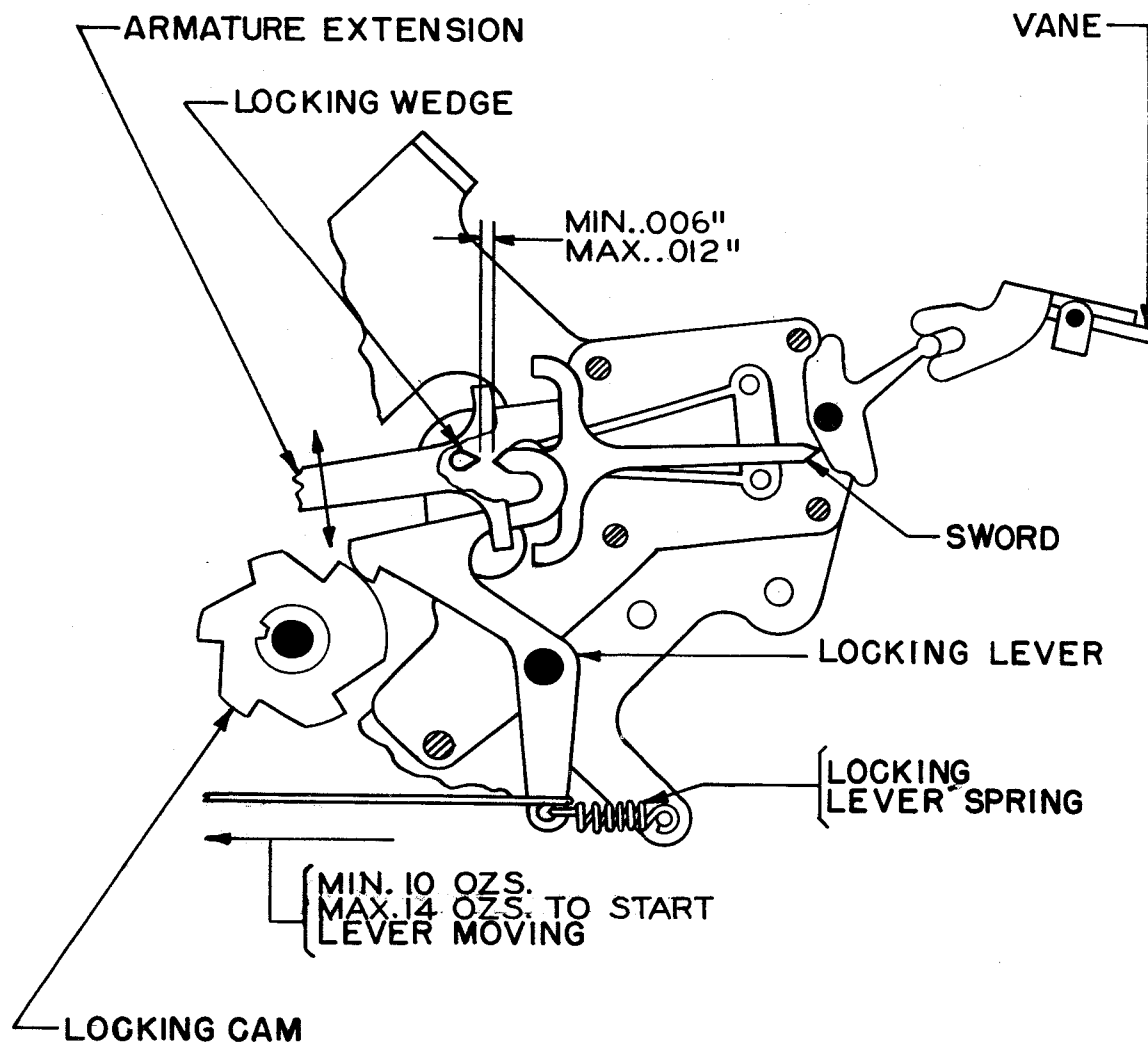

Figure 18
2.21 Armature-locking Wedge (pulling magnet) should clear the locking lever by minimum 0.006 inch, maximum 0.012 inch when locking lever is resting on long high part of cam. (See Figure 18.)
2.22 Armature-locking-lever Spring (pulling magnet) should require a pull of minimum 10 ounces, maximum 14 ounces, as indicated in Figure 18, to start the locking lever moving when the locking lever is on the long high part of its cam.